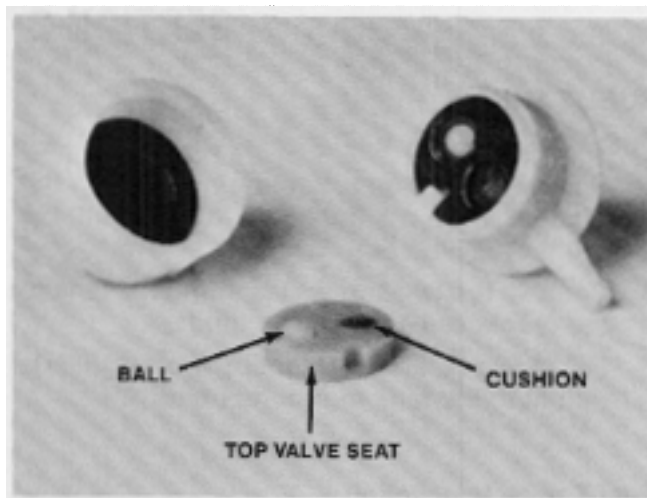

Figure 41
3. Carefully lift out the top valve seat with the valve cushion, and 2 ball valves. See Fig. 41